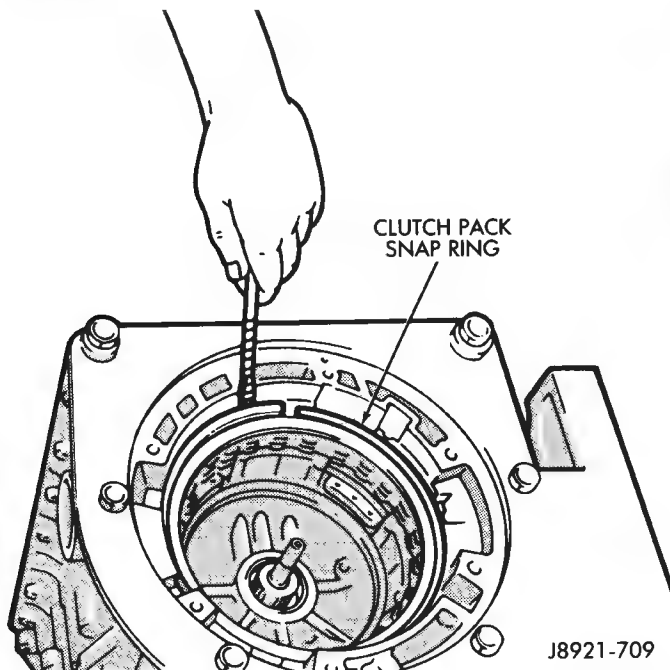

Fig. 42 Installing Overdrive Brake Snap Ring
(51) Install stepped ring retainer plate with flat side facing disc. Then install brake pack snap ring (Fig. 42).